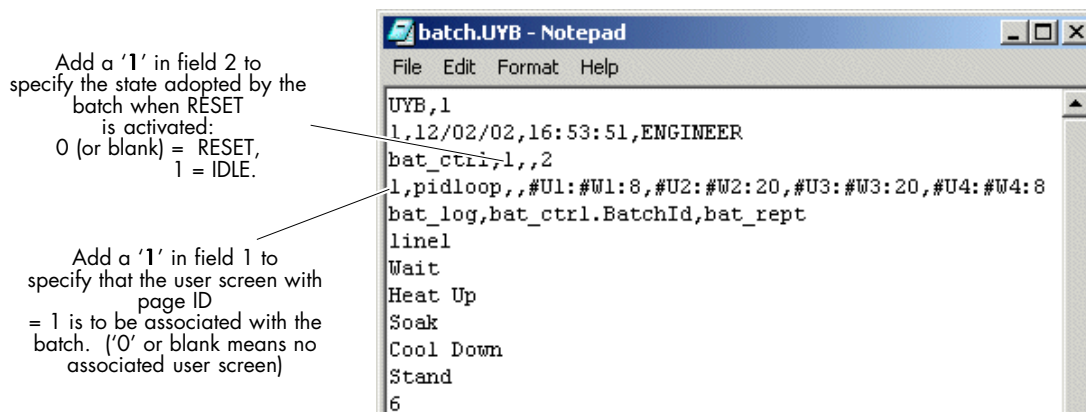

Figure 7-9 The modified batch file ‘batch.uyb’
- 2 Edit lines 3 and 4 as highlighted in Figure 7-9.